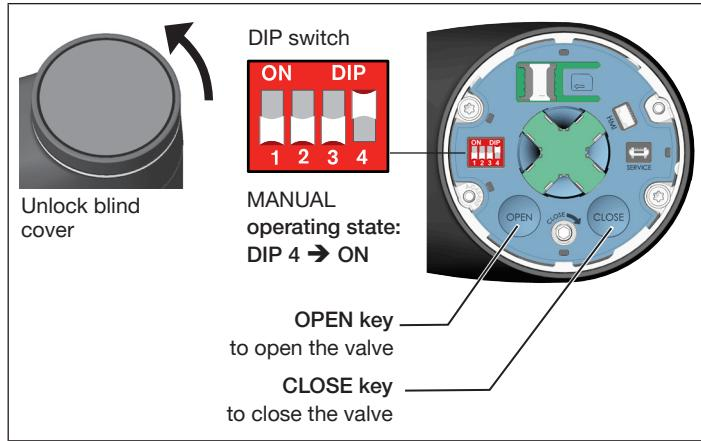

Fig.34: Electrical override of valve
- Set DIP switch 4 to ON. The device is in MANUAL operating state (see "Fig.34").